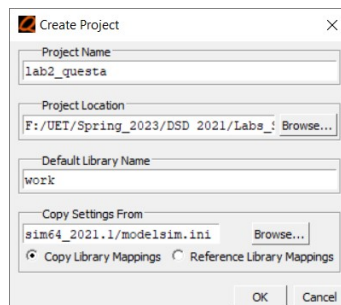

Fig. 3.3: Create Project window.
2. When prompted, enter the project name and browse the *Project Location* to the folder containing RTL code and the test bench code. Then click on *OK* (Fig. 3.3).